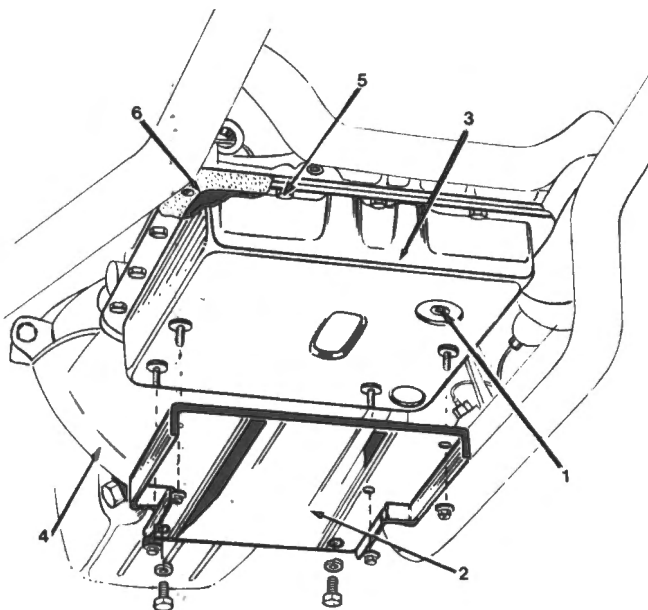

Fig. M-38
- (a) Remove drain plug (1) Fig. M-38.